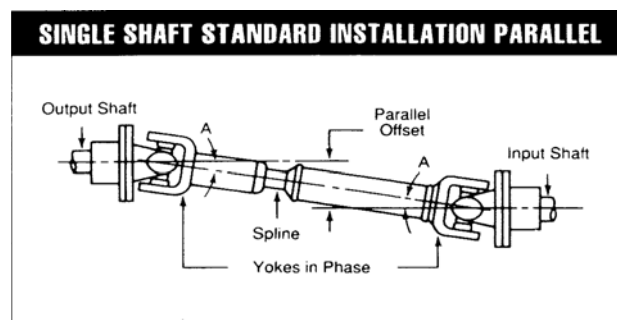

Figure 1
1.4.1 They must work in pairs. A universal joint, working at an angle, will vibrate if it is not cancelled by another joint. The second joint (opposite side of the shaft) must be working at the same angle and in the same plane. (See Figures 1 & 2)
1.4.3 Yokes must be in phase (Figures 1 & 2). Joints, working in pairs, will vibrate if their yoke ears are not in the same plane.
1.4.4 Standard installation (Figure 1) requires that the input and output shafts be parallel.